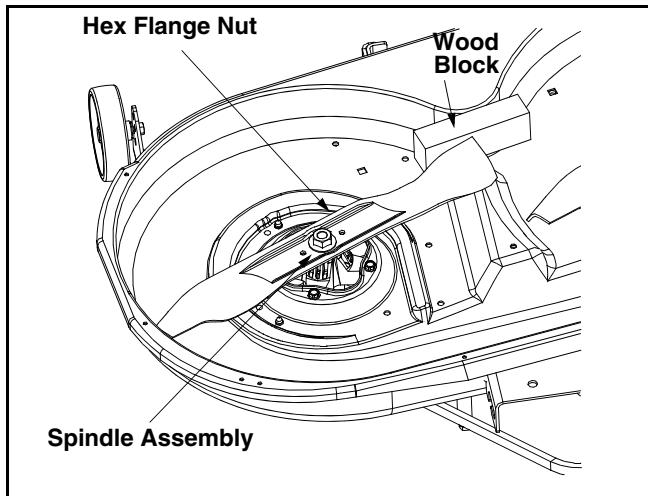

Figure 20
- Place a block of wood between the center deck housing baffle and the cutting blade to act as a stabilizer. See Figure 20 .
- Use a 15/16" wrench to remove the hex flange nut that secures the blade to the spindle assembly. See Figure 20.